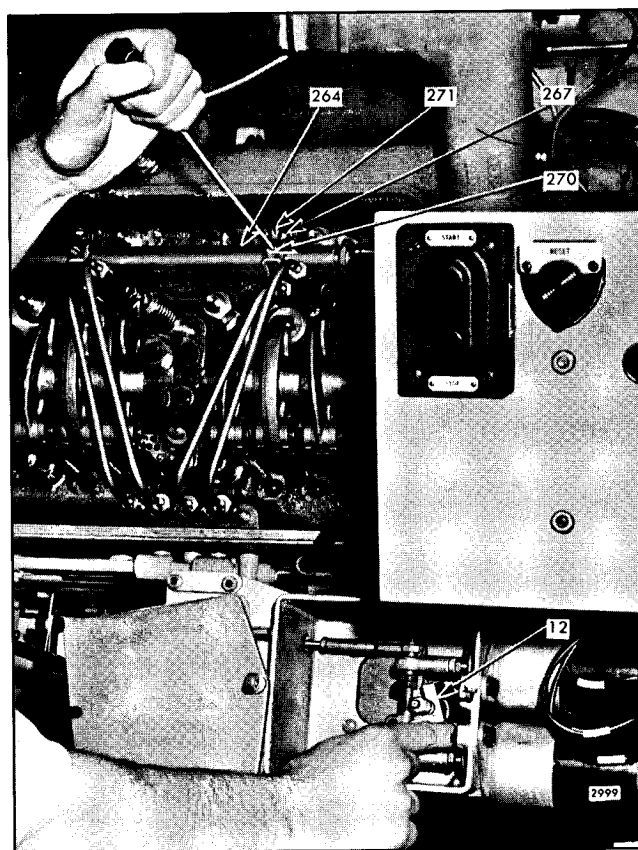

Fig. 2 - Positioning No. 6 Injector Rack Control Lever
Adjust Number 6 injector rack control lever (267), Fig. 2, first to establish a guide for adjusting the remaining injector rack control levers.
4. Loosen and back out the inner and outer adjusting screws (270) and (271), Fig. 2, on each injector rack control lever (267). Be sure all rack control levers are free on the injector control tube.
5. While holding the throttle control lever (12) in the FULL FUEL position, turn inner adjusting screw (270) down on Number 6 injector rack control lever until a slight movement of the injector control tube lever is observed.
6. Turn the outer adjusting screw (271) down until it bottoms lightly on the injector control tube. Then alternately tighten both the inner and outer adjusting screws until tight.
7. With the throttle control lever (12) held in the FULL FUEL position, check for a slight movement of the injector control tube lever. This movement should not exceed $.005''$.